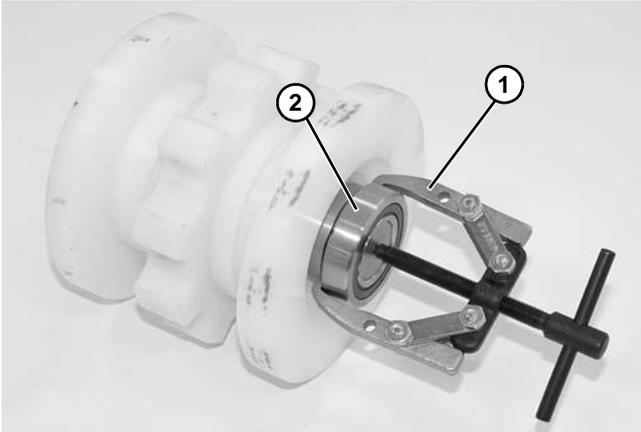

Figure 39
- Using puller (Figure 39, item 1), as shown, remove bearing (Figure 39, item 2) from shaft assembly. Repeat on opposite side, if needed.